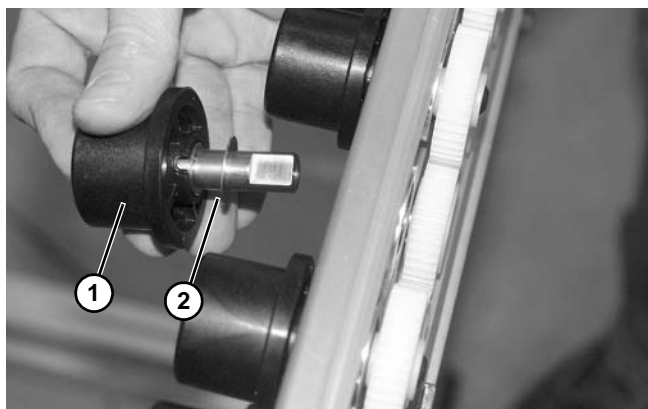

Figure 39
7. Remove roller assembly (**Figure 39, item 1**) and washer (**Figure 39, item 2**) from the conveyor frame.